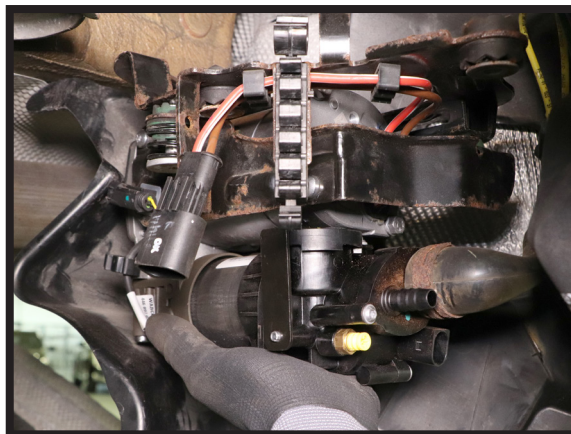

FIGURE 30
4. INSTALL THE ENTIRE COMPRESSOR AND BRACKET ASSEMBLY ONTO THE VEHICLE. (FIGURE 30)